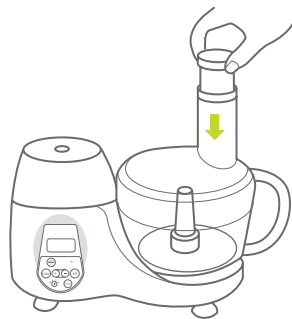

Fig. 12
2. Use the pusher to push ingredients through the throat. (Fig.12)